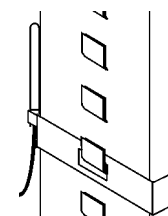

Figure 9-8. Sensor
4. Place the datalogger sensor in the desired location or use the clip provided. See Figure 9-8 (clip shown on pilaster).